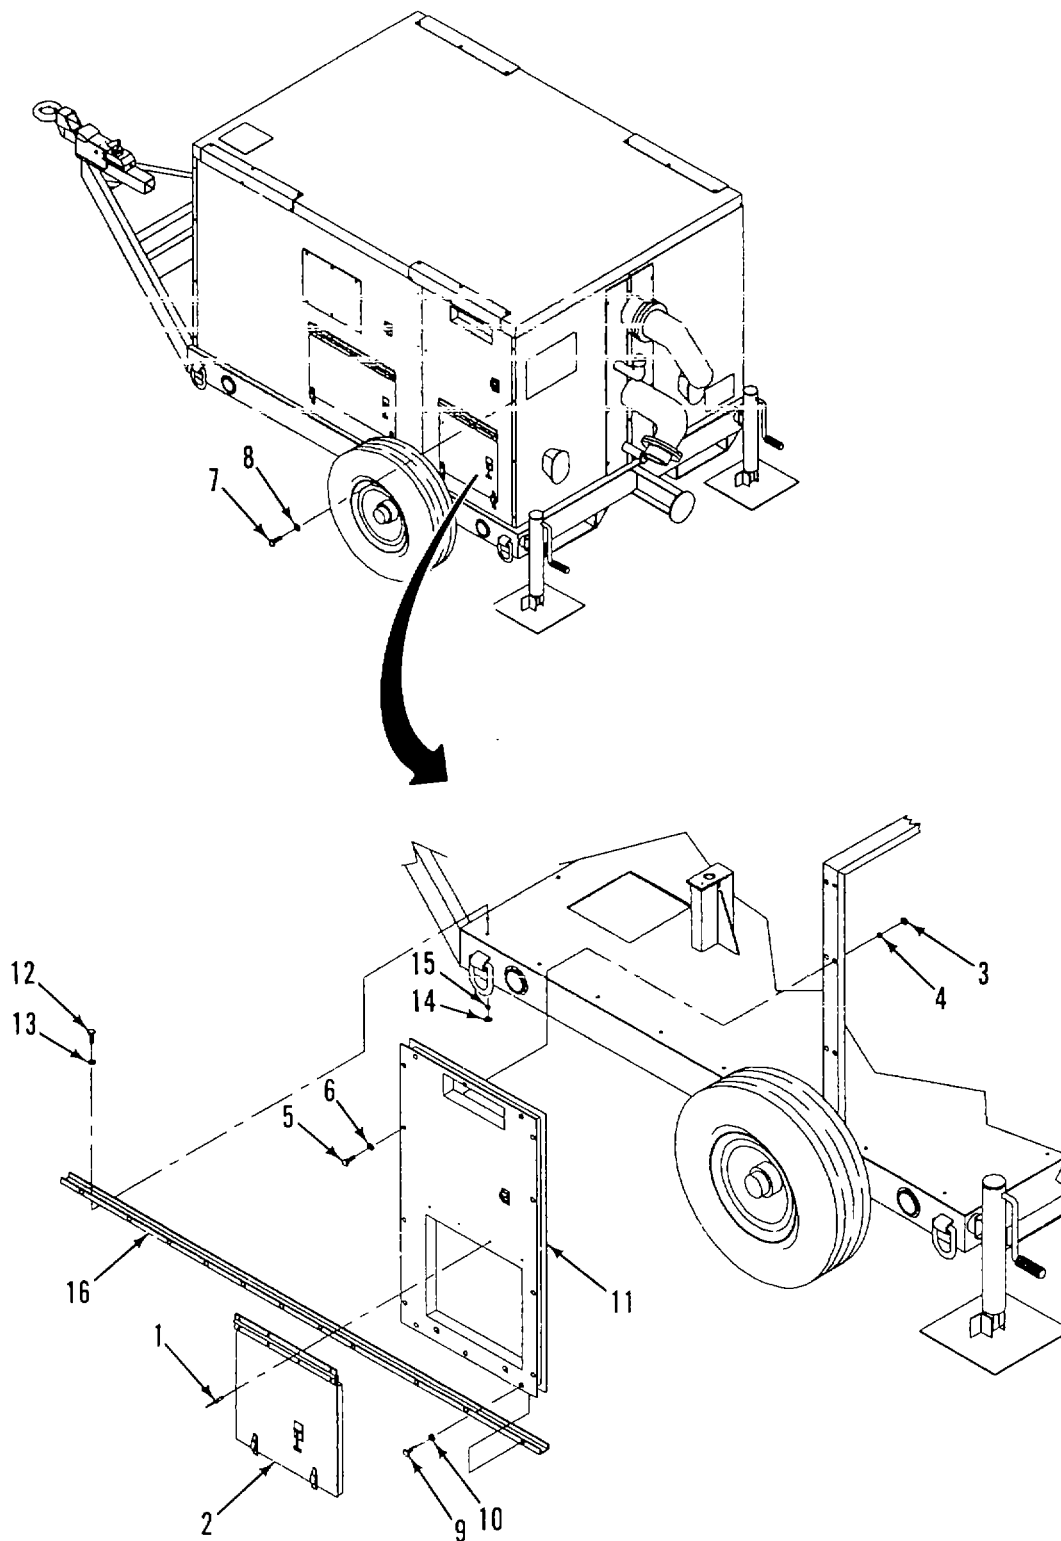

Figure 3-8. Battery Access Panel
a. REMOVE, (Figure 3-8)
- (1) Remove rivets (1) (para. 3-6).
- (2) Remove battery access hinged panel (2).
- (3) Remove nuts (3), flat washers (4), bolts (5), and flat washers (6).
- (4) Remove bolts (7) and flat washers (8).
- (5) Remove bolts (9), flat washers (10), and panel (11).
- (6) Remove bolts (12), flat washers (13), nuts (14), lockwashers (15), and mounting bracket (16).